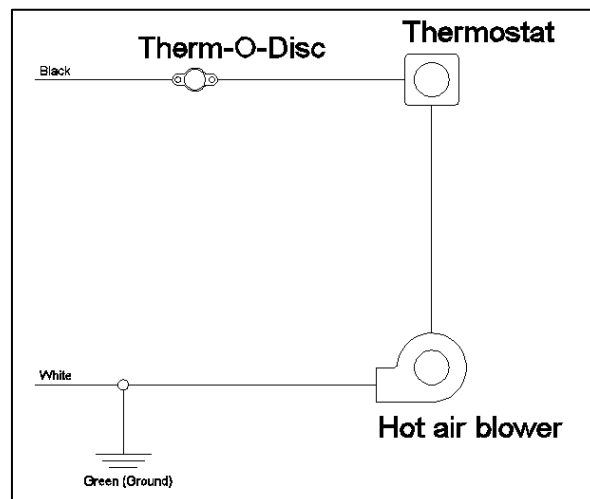

Figure 4-2: Electrical Diagram for Hot Air Kit
8. Make the electrical connections (Figures 4-2 and 4-3). Note that the power supply to the blower is 115V.